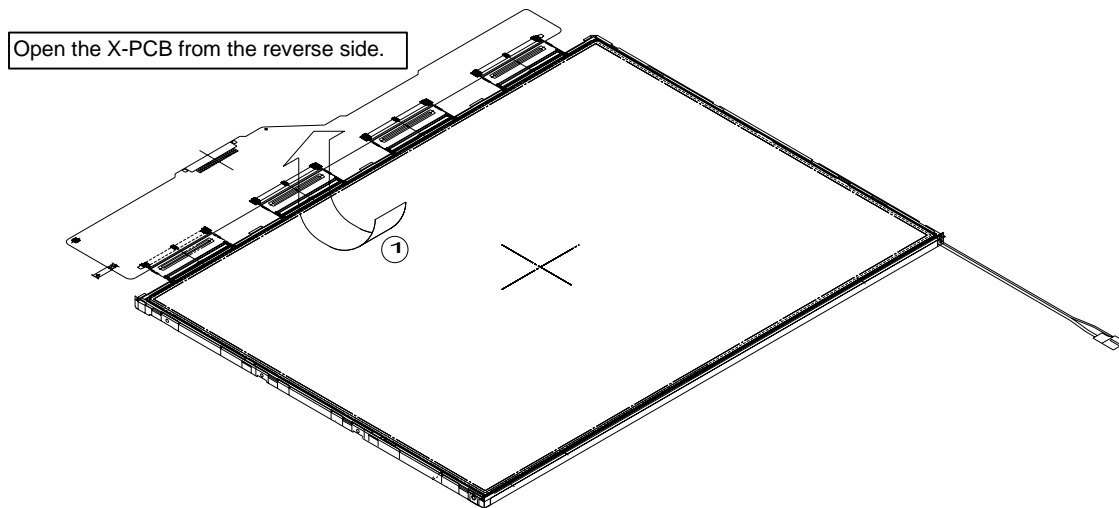

Figure 4-48 Replacing 14 Inch TMD fluorescent lamp (4)
1. Spread out the PCB horizontally, as shown in Figure 4-48.